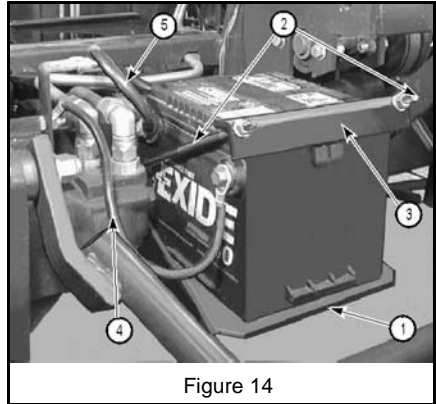

Figure 14
1. Place battery in battery holder (1, Figure 14) with terminals facing the left wheel. Insert the hook end of the battery support rods (2, Figure 14) into holes on the back vertical surface of the battery holder.
2. Place battery hold down (3, Figure 14) over support rods and upper corner of battery and secure with flat washers and hex nuts.
3. Attach the ground wire (4, Figure 14) to the frame as shown. Connect the ignition wire (5, Figure 14) to the positive (+) terminal of the battery.